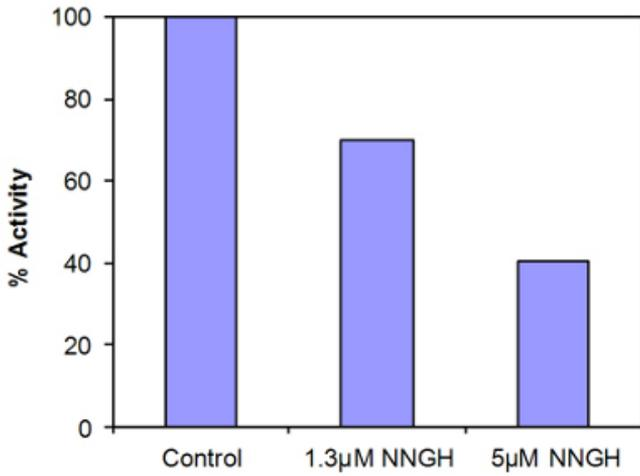

Figure 1. Example of inhibitor data.
8. Add 20 μL MMP Inhibitor (diluted in step 2) to the MMP Inhibitor wells only. Final inhibitor concentration = 1.3 μM . Note: 1.3 μM NNGH will inhibit MMP7 by 30% under these conditions (see Figure 1).
See Figure 1 below for example of results.